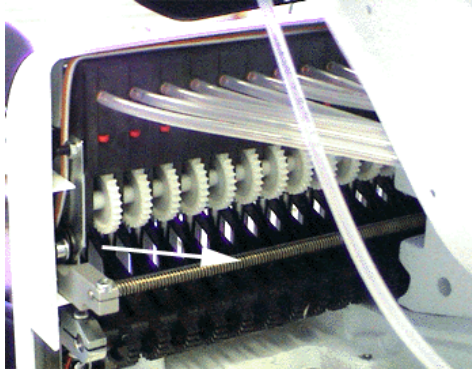

Figure 7-29
2. Locate the color change driver; it is accessible from the back of the needle case (see *Figure 7-29*).